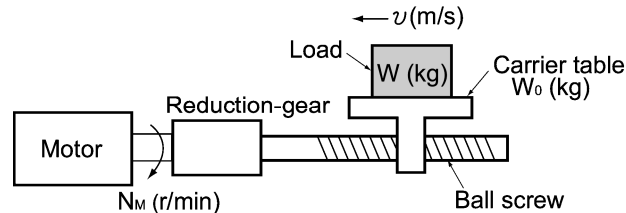

Figure 3.7 Moving a Load Horizontally
A simplified mechanical configuration is assumed as shown in Figure 3.7. If the mass of the carrier table is  $W_0$  (kg), the load is  $W$  (kg), and the friction coefficient of the ball screw is  $\mu$ , then the friction force  $F$  (N) is expressed as follows, which is equal to a required force for driving the load:
Assume a carrier table driven by a motor as shown in Figure 3.7. If the table speed is  $v$  (m/s) when the motor speed is  $N_M$  (r/min), then an equivalent distance from the shaft is equal to  $60 \cdot v / (2\pi \cdot N_M)$  (m). The moment of inertia of the table and load to the shaft is calculated as follows: